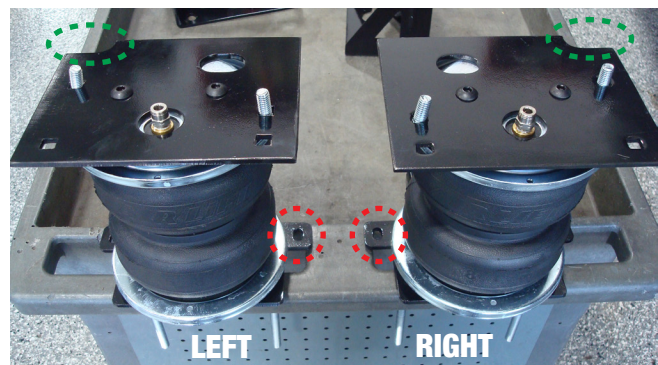

Fig. 16
- The other side is the same, but mirrored (Fig. 16)
- Place the lower bracket assembly onto the air spring assembly and secure it with two 3/8"-24 button head screws (J), torque them to no more than 20 lb.-ft. (27Nm)
- Repeat these steps for the other side. The completed assemblies are shown in Figure 16.
NOTE For proper installation of the assemblies make sure the tabs (circled in red) are on the opposite side of the air port or on the same side as the upper bracket notches (circled in green) (Fig. 16).